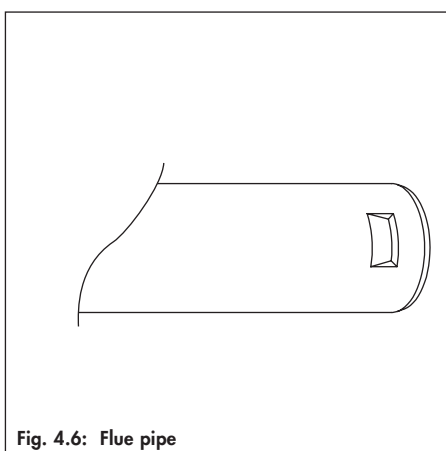

Fig. 4.6: Flue pipe
- ⓘ Please note: The catch on the top of the variable terminal must lock firmly into the notch in the flue duct (fig. 4.6).